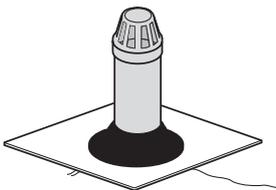

Fig.21b Steps 2/3
Step 3 – Slide 149 Weathering Slate over stack. Push slate (and its rubber cone) down onto first layer of felt (Fig.21b)